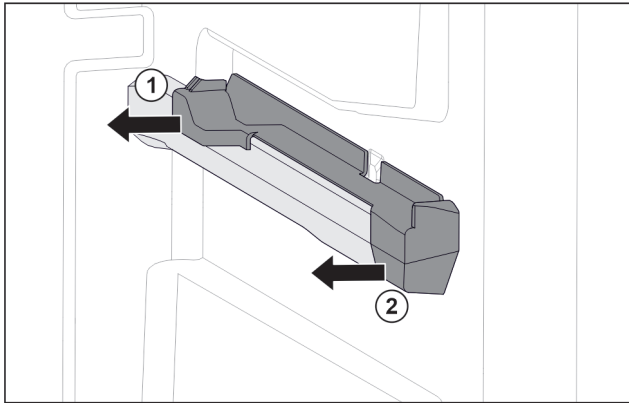

Fig. 102 Attachment on the right moulded rib
- Pull off attachment at the back sideways. Fig. 102 (1)
- Pull off attachment at the front sideways. Fig. 102 (2)